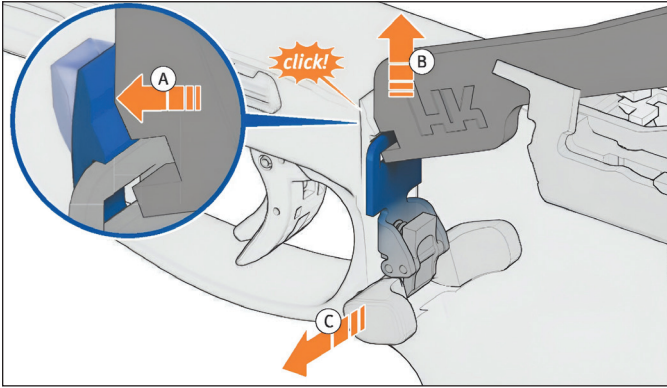

Figure 45 – Remove push button
3. Push the latching clip in the pistol grip frame forward with disassembly tool (Figure 45).
4. With the latching clip held forward, place the disassembly tool in the rectangular cutout (detent) in the magazine catch and push upward slightly (Figure 45). This action releases the push button and allows it to be removed and reversed.